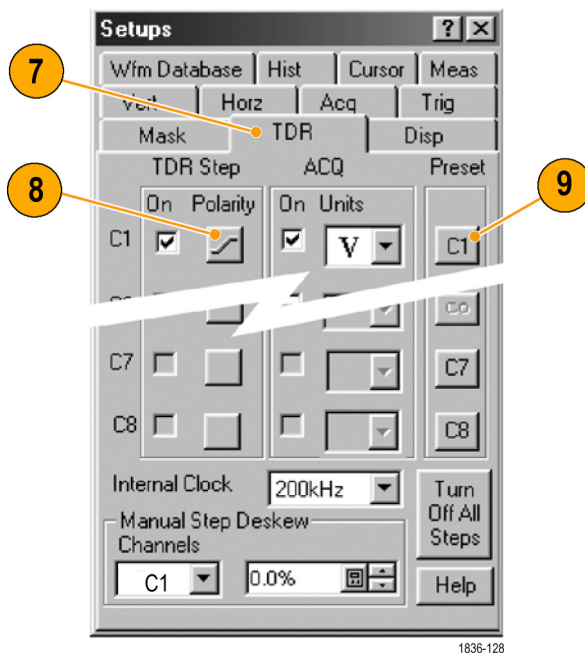

Figure 18: TDR parameter setup
7. Set the Channel 1 sampling head to TDR mode: press the **SETUP DIALOGS** button and select the TDR tab. (See Figure 18 on page 28.)